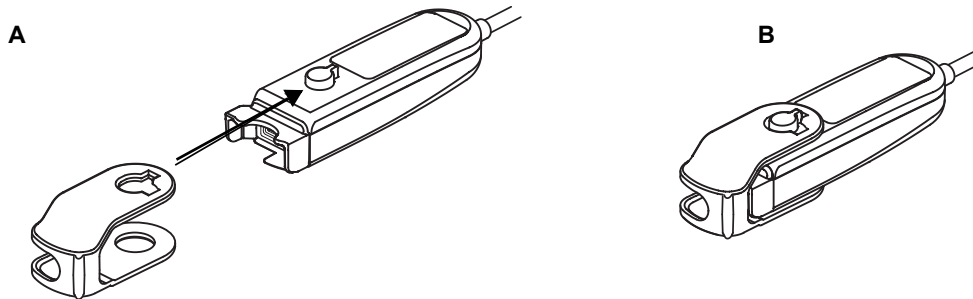

Figure 13. Signal Processor Lock Replacement
1. Align the lock hinge with the connector end of the signal processor (figure 13-A).
3. Click the lock into place (figure 13-B).